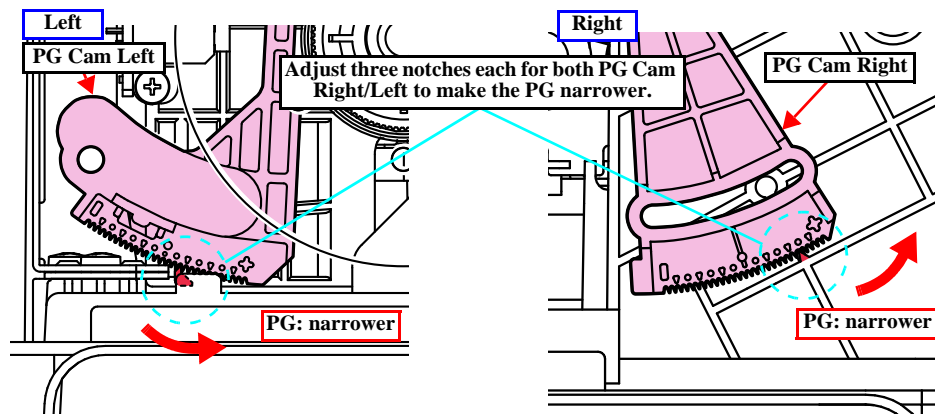

**Figure 5-9. Position of the Thickness Gauge**
6. Place the thickness gauges (1.7 mm) on the positions shown in Figure 5-9.
3. Place the thickness gauges (1.5 mm) on the positions shown in Figure 5-9 \(p 94\).